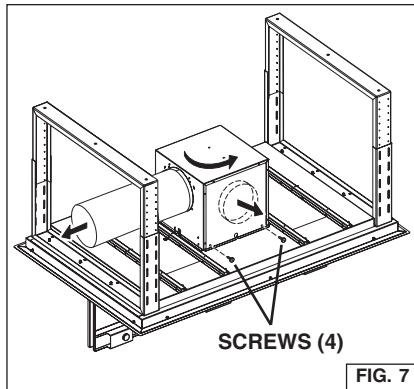
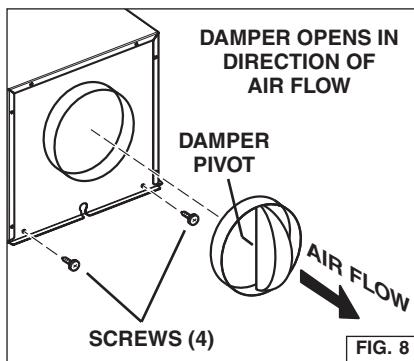

FIG. 7
FIG. 8
5. The blower can be rotated according to the air outlet location. Fig. 7.
2. To change direction of the duct without using elbows. Fig. 7:
- Remove (4) screws from sides of blower box.
- Remove blower, turn blower 90 degrees, reinstall (4) screws.
3. Install damper into blower discharge collar. Make sure damper flaps open in direction of air flow as shown and pivot is vertical. Fig. 8. Use duct tape to secure the damper inside the discharge collar.